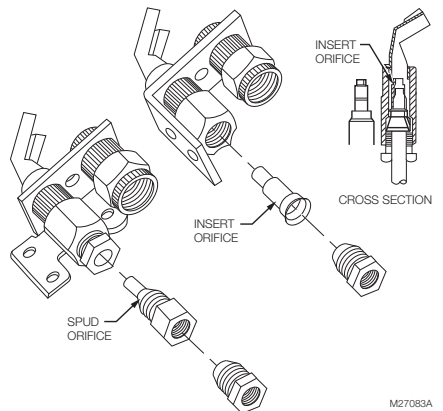

Fig. 7. Changing spud and insert orifices.
**Change Insert Orifices (See Fig. 7)**
**Change Spud Orifices (See Fig. 7)**